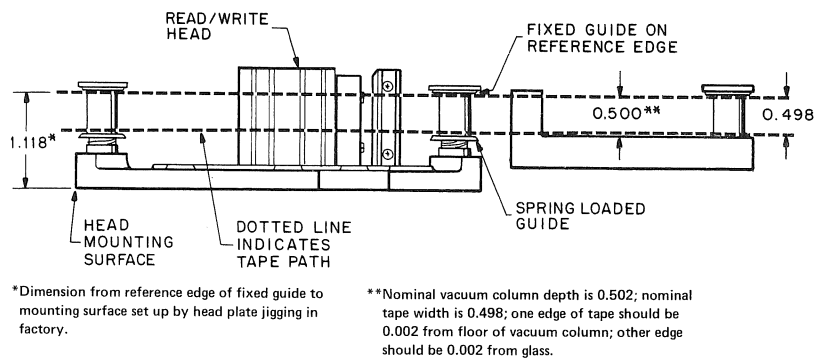

Figure 5-44 Head Plate Assembly Mounted in the Plane of the Tape Path
10. The reference edge of the fixed guides is now set into the plane of the tape coming out of the vacuum columns. (See Figure 5-44.)